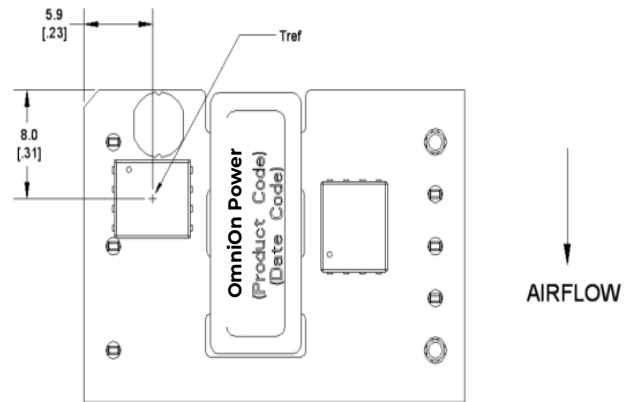

Figure 13. T_{ref} Temperature Measurement Locations for Open Frame Module.
To provide protection under certain fault conditions, the unit is equipped with a thermal shutdown circuit. The unit will shutdown if the thermal reference point T_{ref} (Figure 13), exceeds 125°C (typical), but the thermal shutdown is not intended as a guarantee that the unit will survive temperatures beyond its rating. The module can be restarted by cycling the dc input power for at least one second or by toggling the remote on/off signal for at least one second. If the auto-restart option (4) is ordered, the module will automatically restart upon cool-down to a safe temperature.
The thermal reference point, T_{ref} used in the specifications is shown in Figure 13. For reliable operation this temperature should not exceed 125°C.